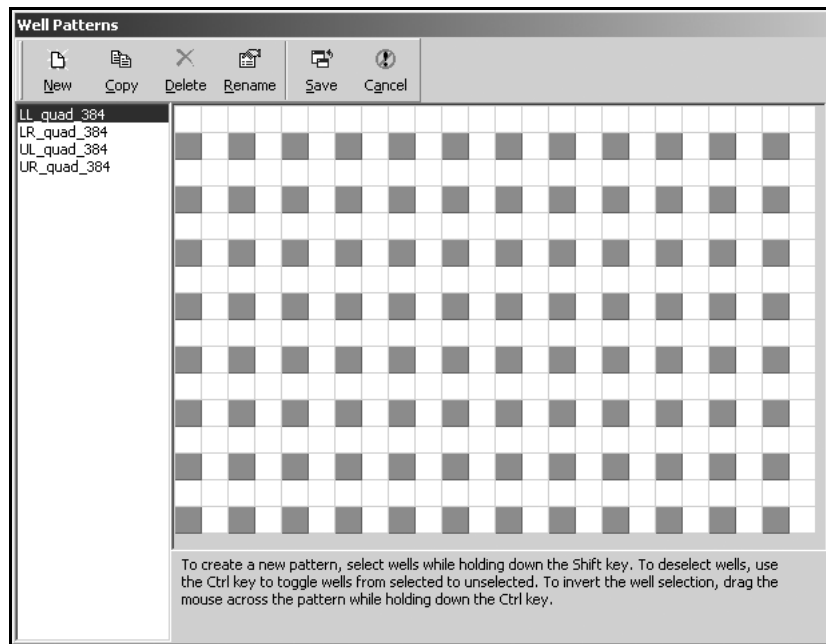

Figure 3-6. Well Patterns
1. From the **Project** menu, choose **Well Pattern Editor**. **Well Patterns** appears (Figure 3-6).